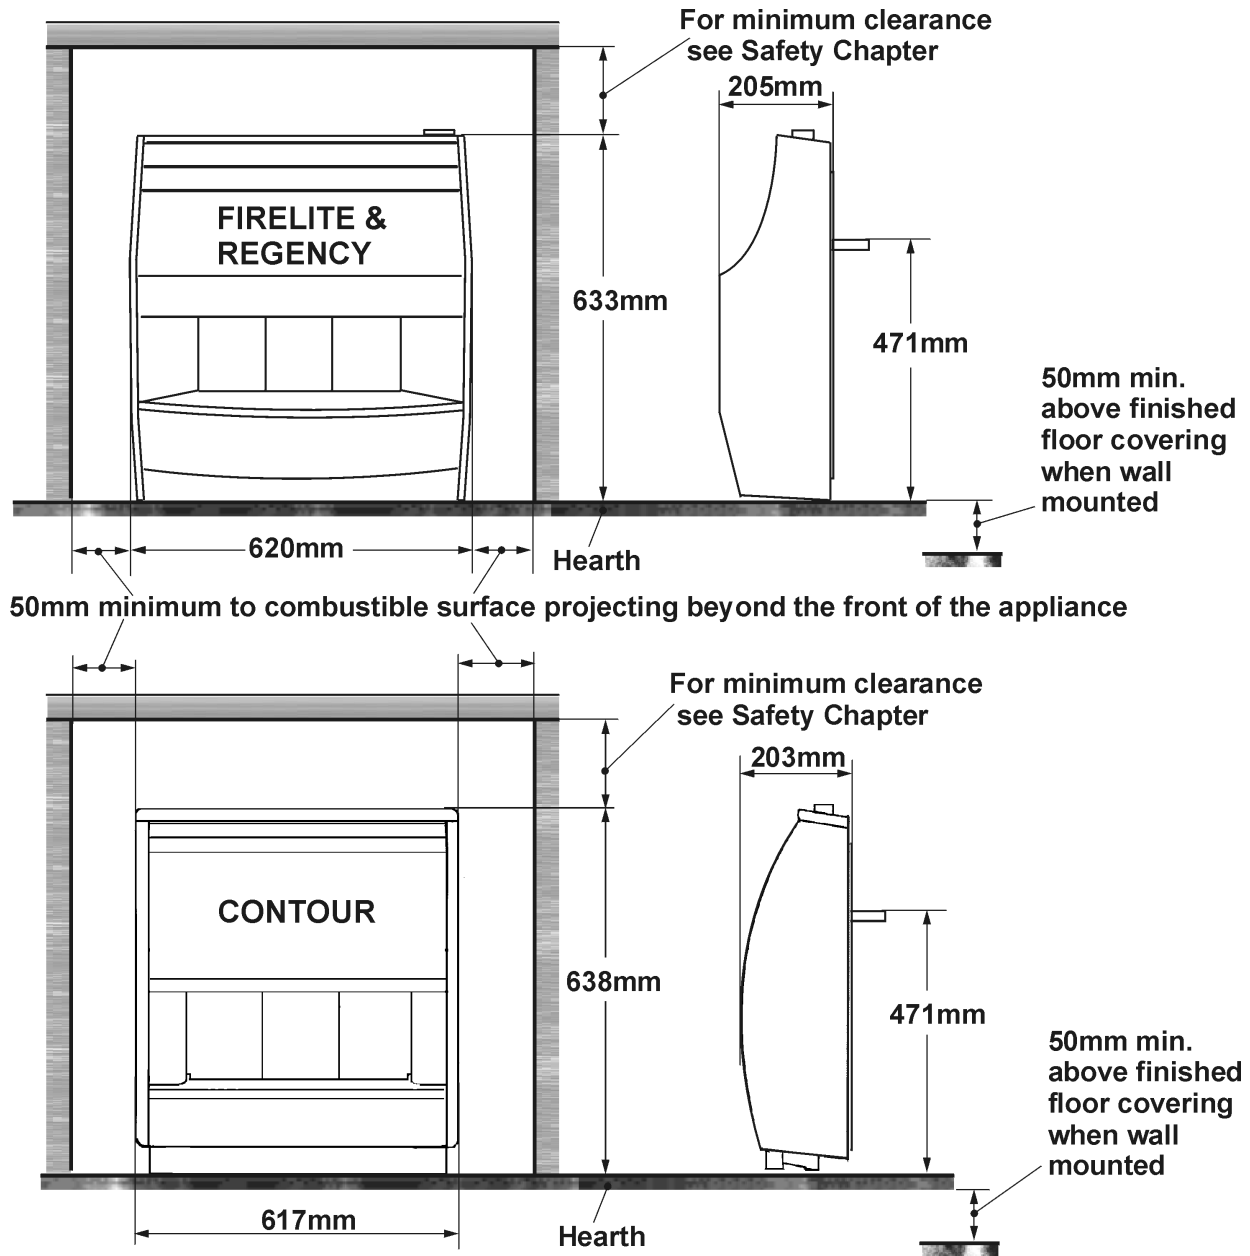

Figure 1. Dimensions & clearances
- Provide a minimum clearance of 50mm between the outer case sides and any corner wall having combustible material or other combustible surface which projects beyond the front of the fire (See figure 1). Please bear this in mind if ever you are considering altering the room.